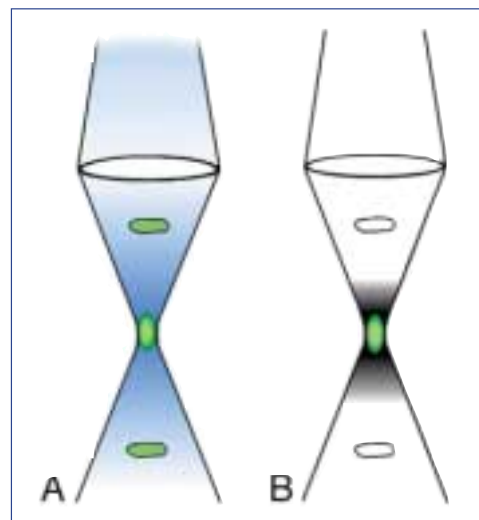

Fig 1 Single-photon (A) and multi-photon (B) excitation.
The key feature of multi-photon microscopy^(1,2) is that excitation and hence fluorescence emission only occurs at the focal plane of the exciting laser beam (*Figure 1*).
In conventional single-photon microscopy (A) excitation (blue) is present above and below the plane of focus causing labelled structures in this region to fluoresce (*Figure 1*). A sub-resolution green fluorescent object is depicted in the focal volume. In the case of multi-photon microscopy (B), ultra-short pulses of infrared excitation (grey) can produce fluorophore excitation in the focal volume where the photon density is sufficiently high. Excitation does not occur to labelled structures above or below the plane of focus.